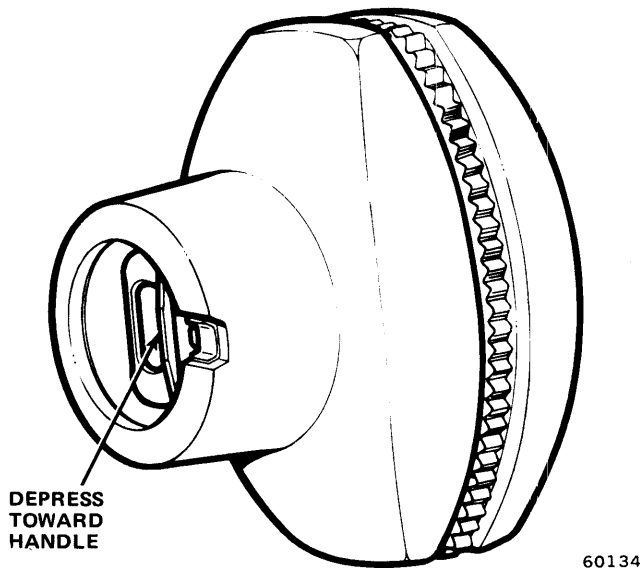

Fig. 13-7 Fan Control Knob Locking Feature
(1) Rotate knob until slot in neck of knob is visible. Insert a small bladed screwdriver in the slot and depress spring metal clip toward knob. This will relieve tension on the spring metal clip and allow knob to slide off shaft (fig. 13-7).
(2) Remove retaining nut and trim ring.
(3) Remove switch from instrument panel and disconnect wires.